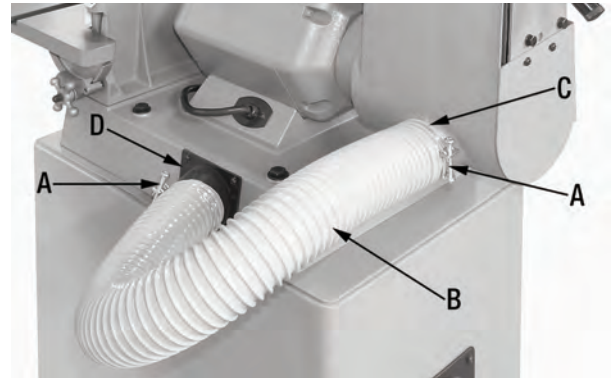

Figure 9
1. Position two wire clamps (A) Fig. 9 over both ends of the dust collection hose (B).
2. Slide one end of the dust collection hose over the sanding belt dust chute (C), tighten the wire clamp screw to secure it in place.
3. Slide one other end of the dust collection hose over the sander base dust chute (D), tighten the wire clamp screw to secure it in place.